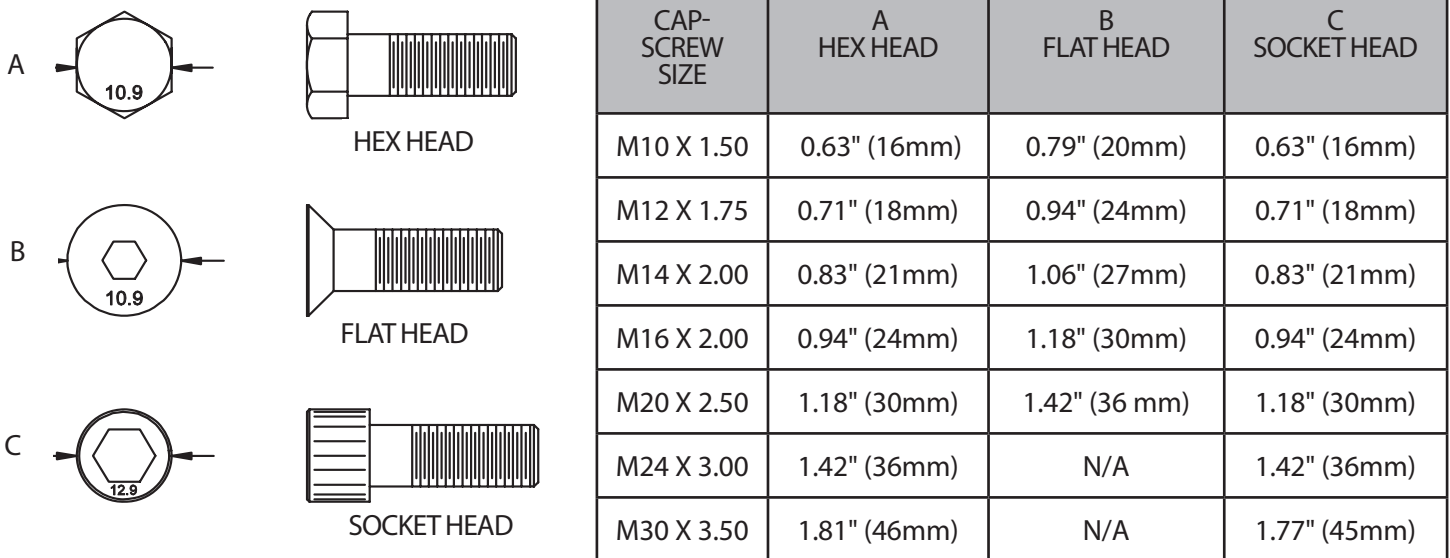

FIGURE 5-2
1. Always replace bolts and nuts with the same size and class of fastener. Replacement fasteners can be ordered from the Stanley LaBounty Parts Department to ensure the correct part is used (refer to figure 5-2). Unless otherwise specified, use class 10.9 metric hex head capscrews, class 10.9 metric flat head capscrews, and class 12.9 metric socket head capscrews.